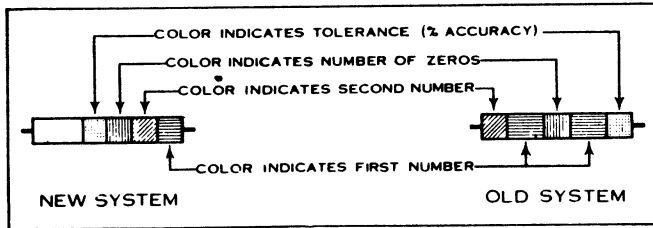

FIGURE 12. RMA RESISTOR COLOR CODE CHART
EXAMPLE: A 50,000 ohm resistor of standard tolerance is indicated by a green ring (5), a black ring (0) and an orange ring (000) as shown in the new system of marking in Figure 12. In the old system of marking, at the right of Figure 12, the resistor would be painted green (5) with a black end (0) and an orange dot or ring in the center (000).